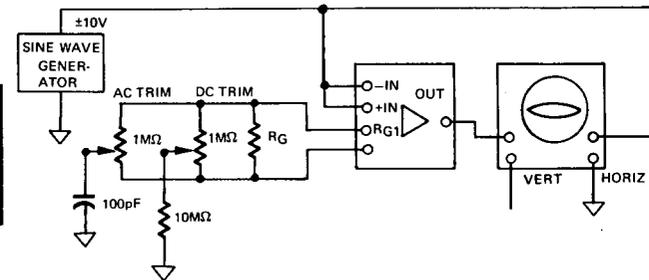

Figure 2. Optional Trim Procedure
The excellent common mode rejection of the 4253 is specified at the full ± 10 volt E_{cm} range. For critical applications, the CMR can be trimmed for peak performance for both ac and dc by following the optional trim procedure shown in Figure 2.
1. Apply $\pm 10V$ sine wave (10Hz or less) to 4253 as shown in Figure 2.